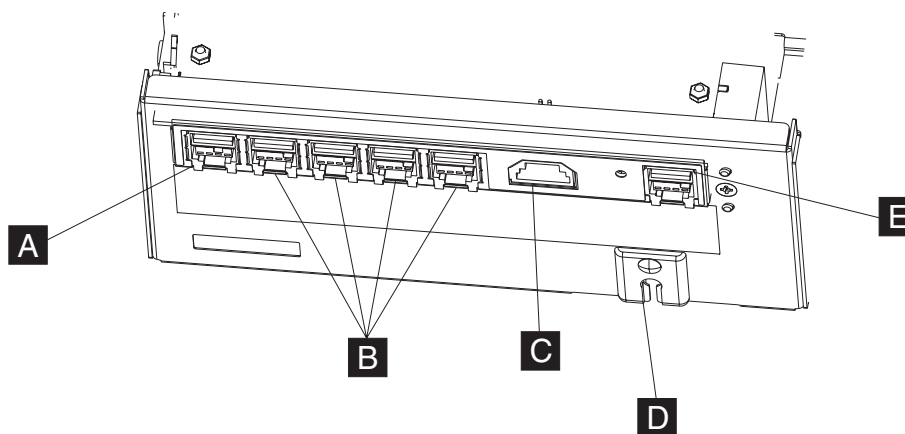

Figure 10. Power outputs
2. Review Figure 10 on page 18 and connect your peripheral units to the hub. Connect the AnyPlace POS cable (**D** in Figure 10 on page 18) to the USB port directly adjacent to the power input port, and to the IBM AnyPlace Kiosk.